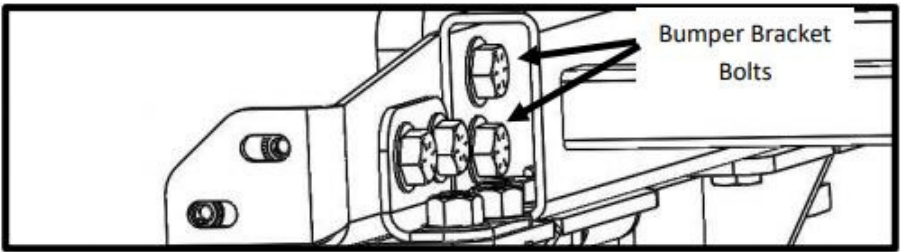

Figure 6.1
Step 6: Remove the two bumper bracket bolts on both sides of the vehicle as shown in figure 6.1.